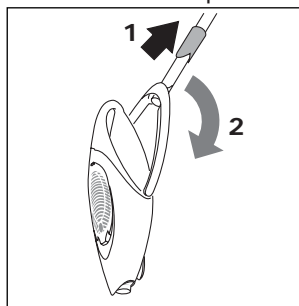

Fig. 9
- release the fork **D** by sliding the fork rotation device upwards in the direction indicated by the arrow (fig. 9);